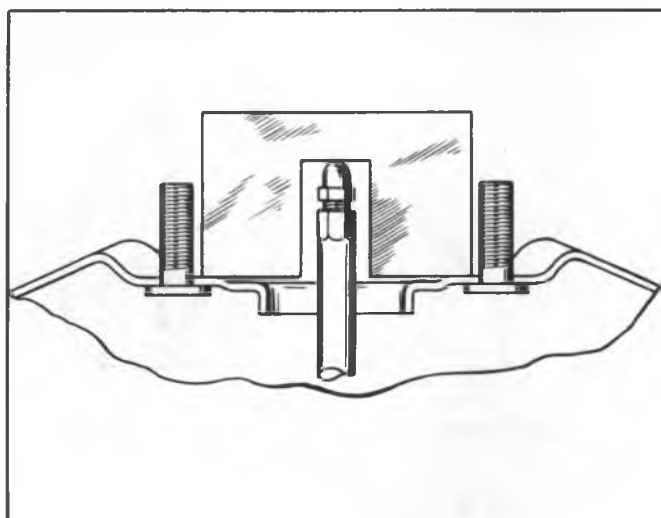

Fig. 9C-Adjustment of Push Rod
1. Place top of Push Rod Height Gauge J-7723-01(Truck) or J- 21183 (Corvette) over push rod with legs of gauge resting on front of rear shell Figure 9C. Top of screw should touch gauge.